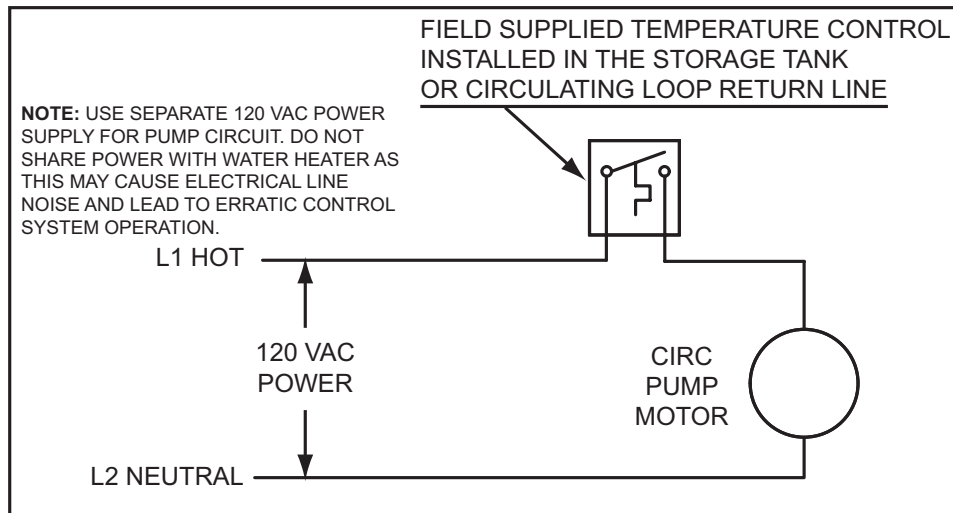
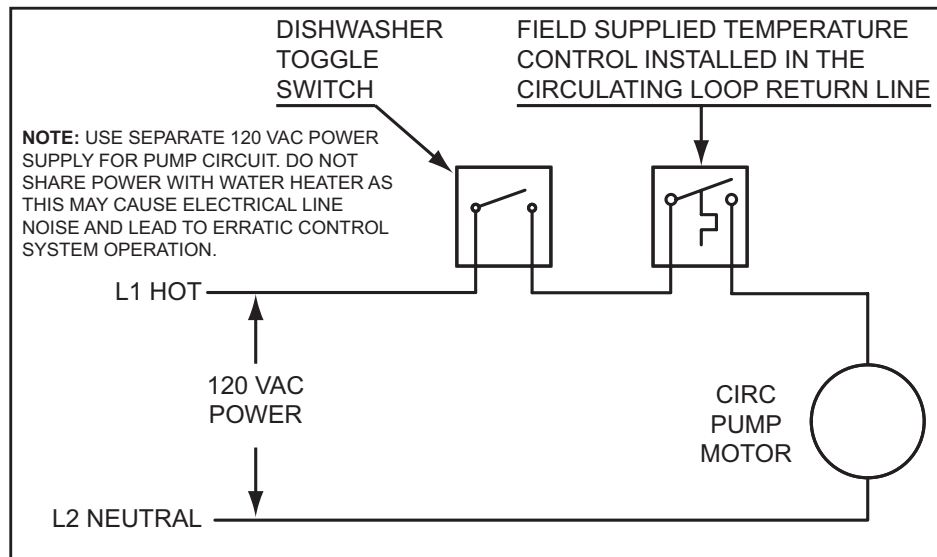

Figure 68
Figure 69
6. If a pump is being installed between a water heater and storage tank or on a building recirculation loop wire according to Figure 68 on page 68.
7. If a pump is being installed in a recirculation loop between the water heater and a commercial dishwasher wire according to Figure 68 or Figure 69 on page 68.